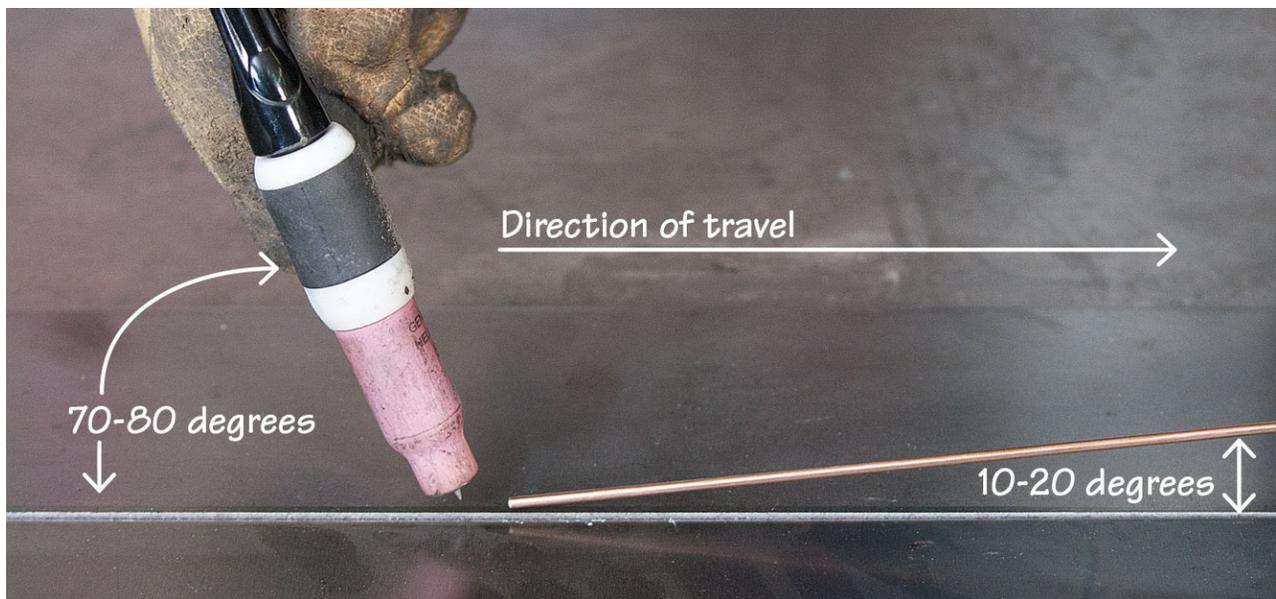

Figure 2: Proper torch angle, filler rod angle, and electrode distance
18. **Add filler wire into the molten pool.** Keep the filler rod angle < 20 degrees (as shown in figure 2) and keep the filler rod in the shielding gas in between dips. Remember to keep the torch over the puddle for at least 5 seconds at the end of each weld. Use consistent torch velocity, proper torch angle and electrode distance, and taper the heat off gradually at the end of each weld to avoid creating a crater (stress riser). Start with your dominant hand and then practice with your other hand. Every 10 – 15 minutes dip the piece in water to prevent from overheating the welds. Keep the torch over the puddle for at least 5 seconds at the end of each weld.